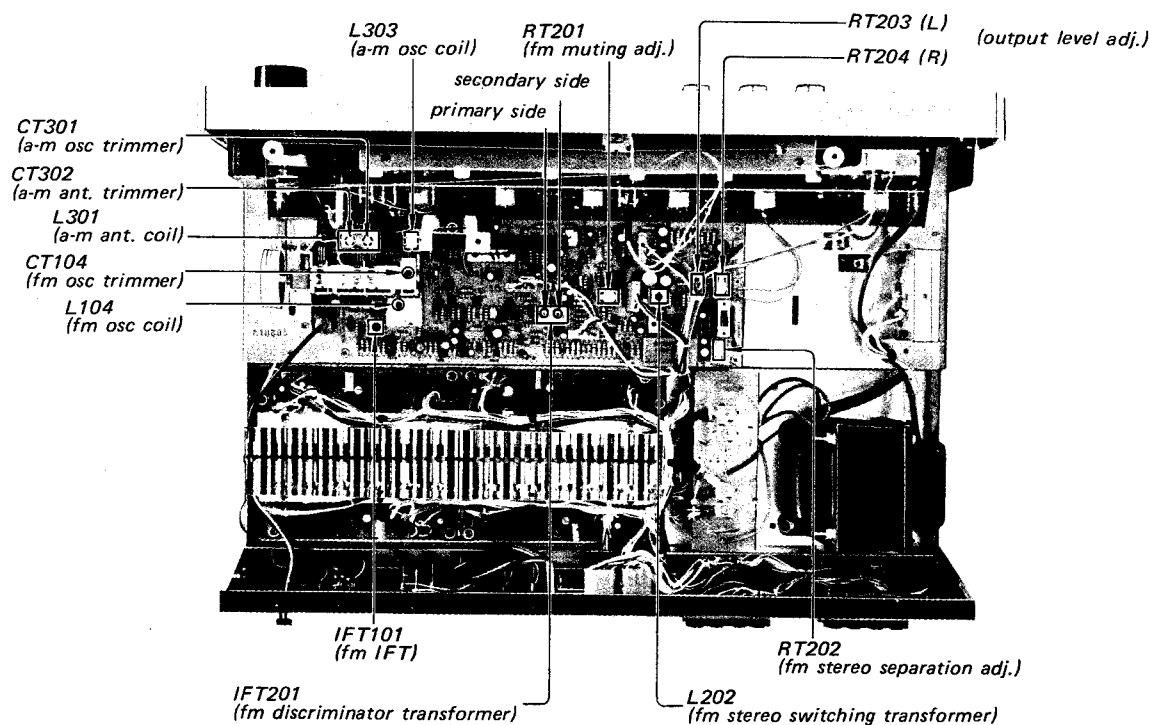

Fig. 3-12. Adjusting parts location
2. Adjust the secondary side of the discriminator IFT201 (see Fig. 3-12), so that the null meter reads zero.
4. Adjust RT201 (see Fig. 3-12 on page 18) so that the needle of the null meter deflects symmetrically about the center (zero position) when detuning the SQR-6750 to higher or lower than the reference carrier frequency (98 MHz).
2. Precisely tune the SQR-6750 to the signal-generator carrier frequency, and turn the top core of 38 kHz transformer L202 (see Fig. 3-12) to obtain maximum output at the left channel. Note that this adjustment has a close relationship with stereo distortion.
5. The output-level to residual-level ratio represents the separation. Adjust separation control RT202 (see Fig. 3-12) for minimum residual level. Check the right channel for separation. Usually, about an 8 to 9 dB difference in channel separation exists. Re-adjust RT202 for minimum difference between left-and right-channel separation. While doing this, remember that the output level also changes according to the setting of RT202.
3. Adjust RT203 (L) and RT204 (R) (see Fig. 3-12 on page 18) so that the output levels at L-CH REC OUT and R-CH REC OUT terminals, respectively, become -1 dB.